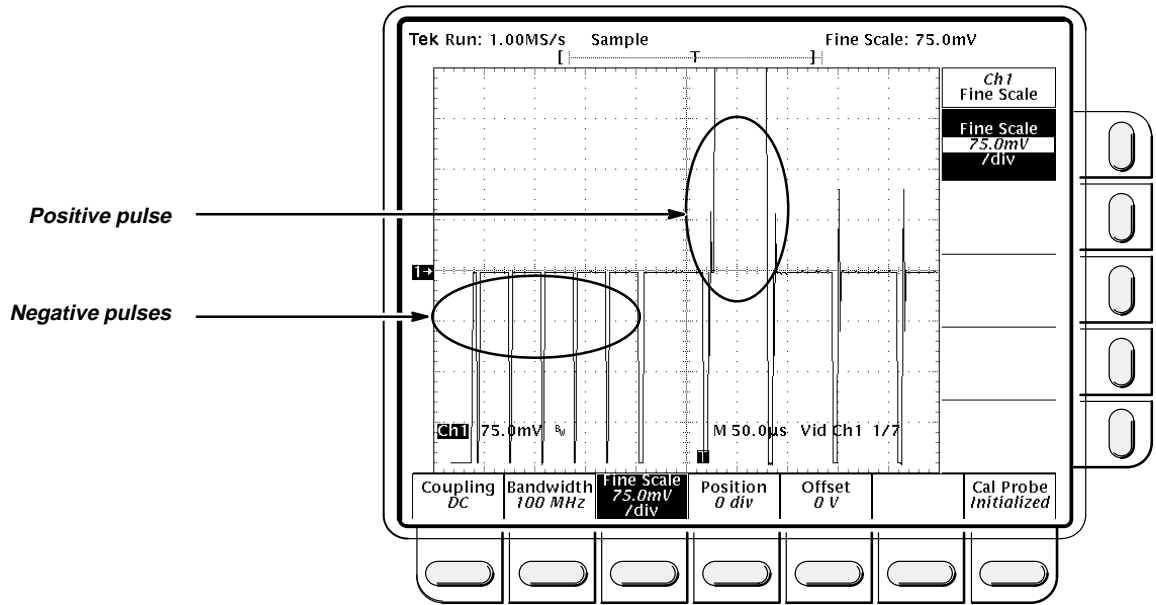

Figure 1-31: Triggered Signal Range Test – 75 mV
- o. CONFIRM that the **TRIG'D** LED stays lit and that the waveform on screen is stable. ie; does not move horizontally or vertically. Also, CONFIRM that the waveform on the screen has one positive pulse and a number of negative pulses (See Figure 1-31).